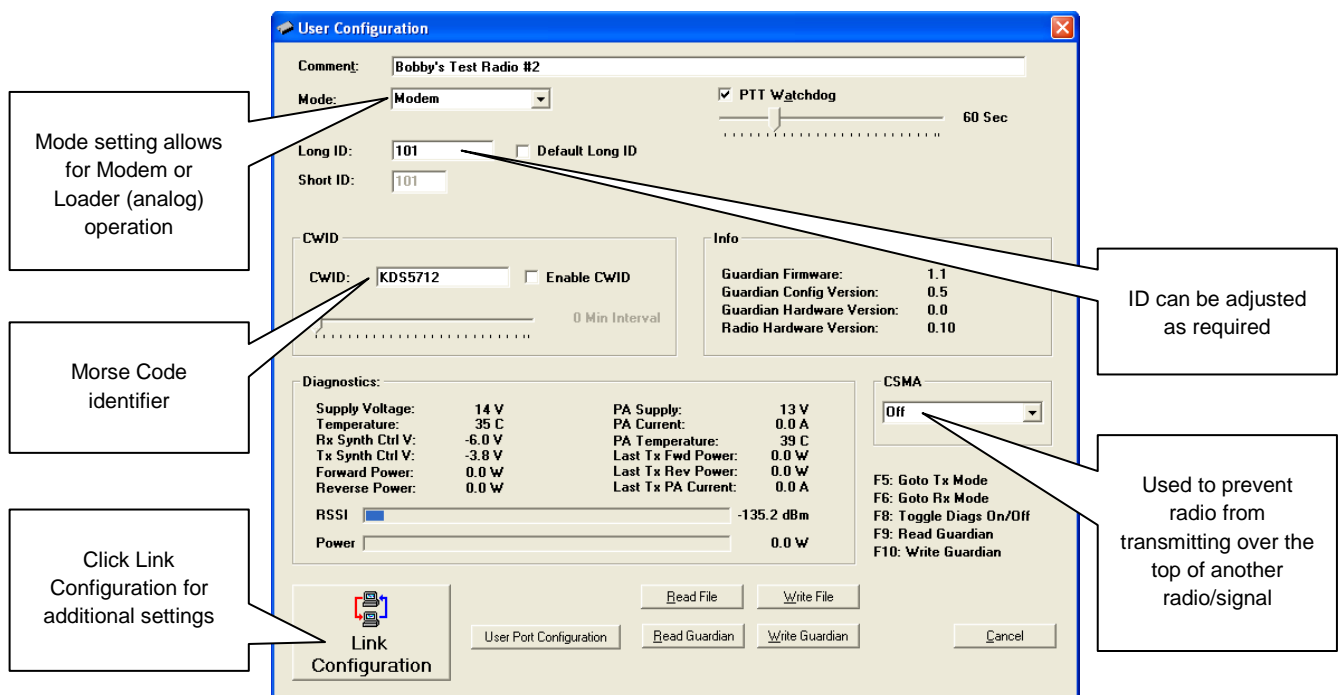
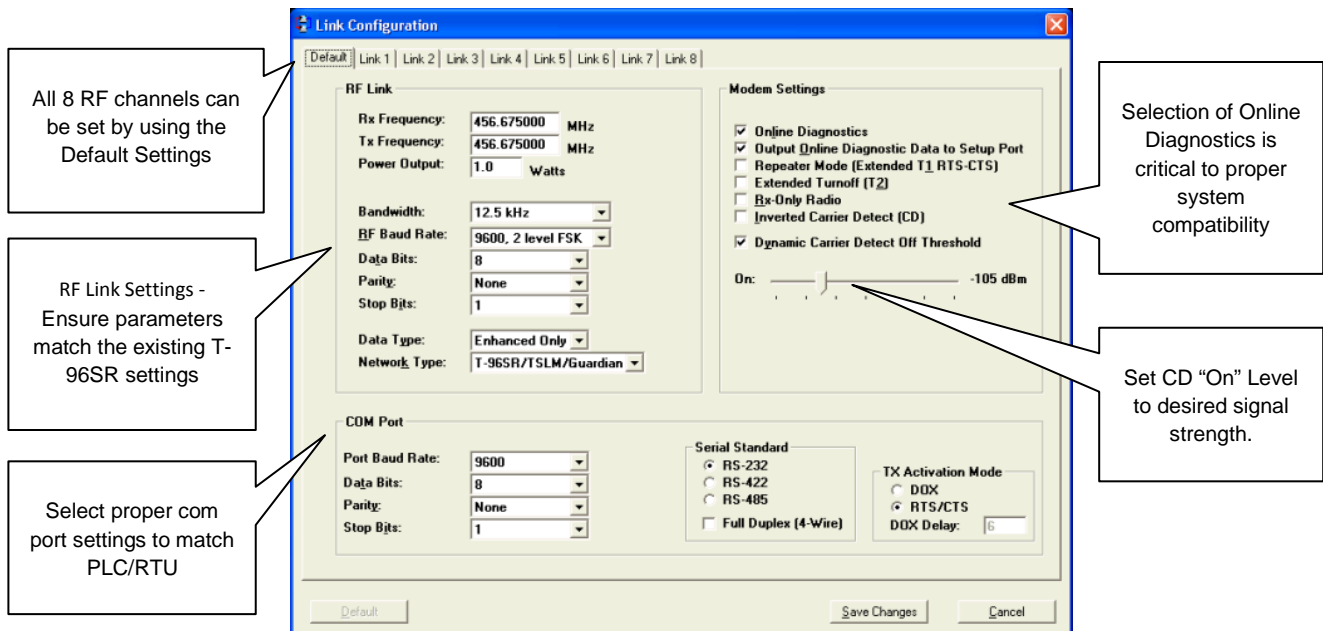

Fig. 5
Fig. 6
The Guardian FPS will read and display the current configuration of the radio/modem connected to the computer. The configuration screen will display the Long and Short ID numbers of the modem. The Long ID number will typically be a 6 digit number. This number can be changed to suit the application’s needs (Fig. 5).
- CWID is a new feature not available on the T-96SR. Station /License call signs can be transmitted at selected intervals. This feature is used when the SCADA system shares a 'Voice Channel' with another system and is required to identify itself using Morse code. (Fig. 5)
- See Fig. 5
- There is a new feature added to the Guardian that allows the radio to be used as a modem (T-96SR compatible) or be used as an analog radio (DL3400 compatible). For this application, only the 'Modem' mode will be used. (Fig. 5)
Press the "Link Configuration" button shown in Fig. 5 to advance to the modem settings. This is the screen that sets the RF channel frequencies and modem settings. See Fig. 6.
Unlike the T-96SR where all 8 channels were programmed one channel at a time, the Guardian has a "Default" setting that will set all 8 channels simultaneously. (Fig. 6)
- The Guardian allows for the OTA data settings to be different from the user comm port settings. Care must be taken to ensure the OTA settings are the same as the T-96SR system settings. (Fig. 6)
By selecting “Output Online Diagnostic Data to Setup Port”, the end user can view Online Diagnostics the same as a T-Base Diagnostic Port would show them. (Fig. 6)
The remainder of the Modem Settings should match the T-96SR system. Dynamic Carrier Detect acts the same as the T-96SR. The Carrier Sense level is set by selecting the “On” level. This is the RSSI (Receive Signal Strength Indication) or signal strength required to open the squelch setting in the receiver. The Carrier Sense “Off” level is set automatically to 5 dBm below the “On” level. (Fig. 6)